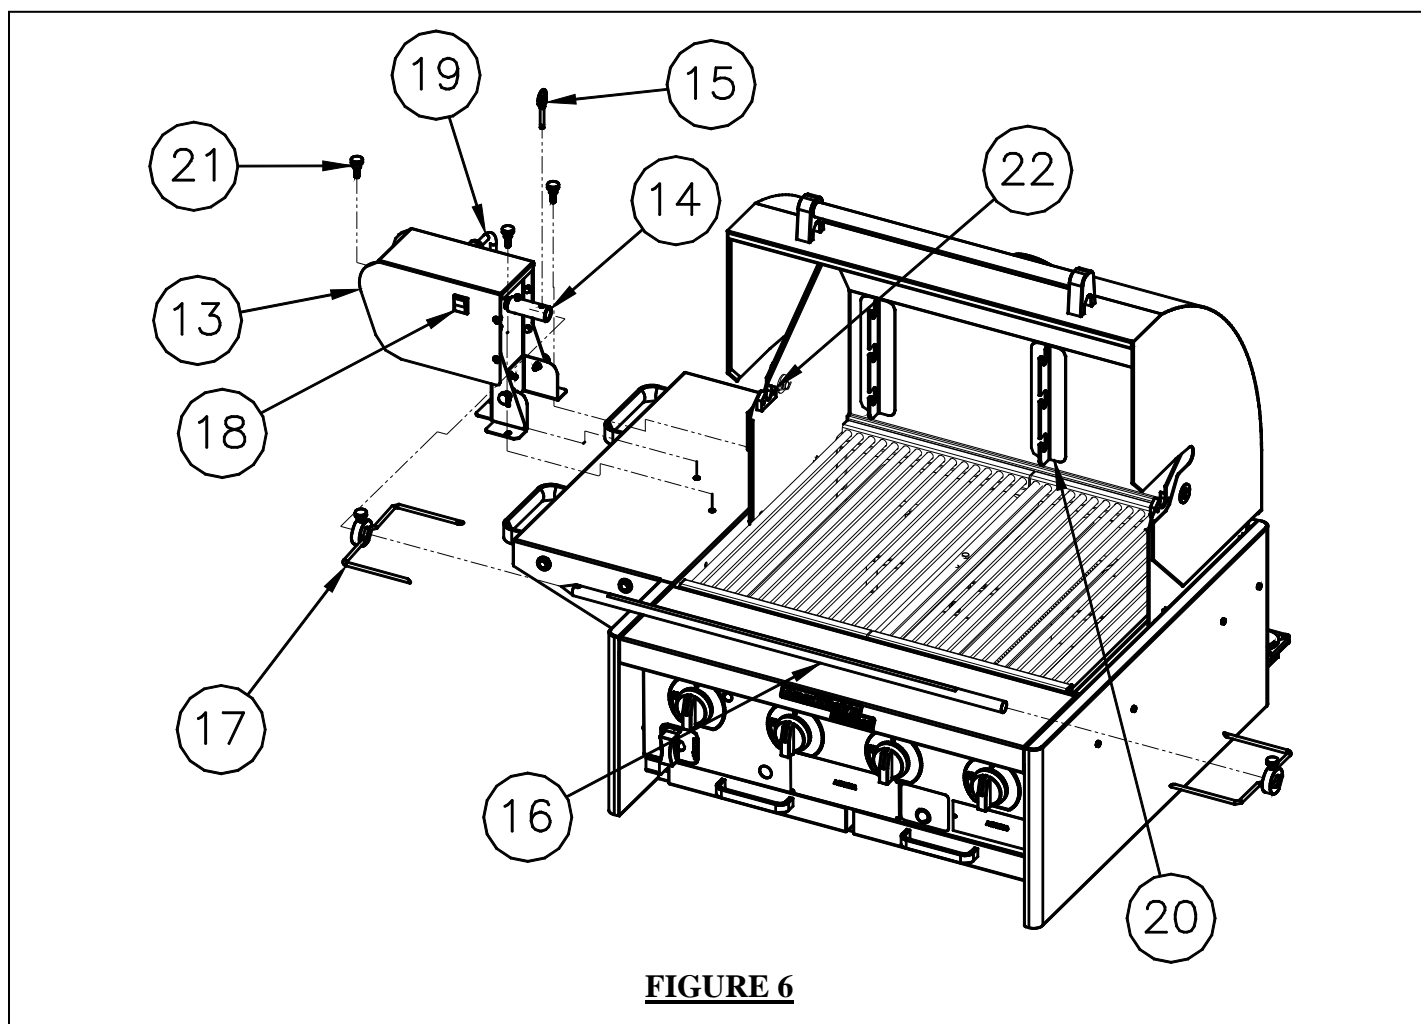

FIGURE 6
To assemble the rotisserie refer to the following steps; refer to figure 6 unless otherwise instructed.
The rotisserie motor housing assembly (13) is mounted and adjusted with six mounting knobs (21). If needed, the rotisserie can be removed without tools for storage by removing the three mounting knobs that attach the assembly to the side shelf. The rotisserie is shown exploded in figure 6; the legend below identifies the parts for reference.
ROTISSERIE ASSEMBLY LEGEND, FIGURE 6